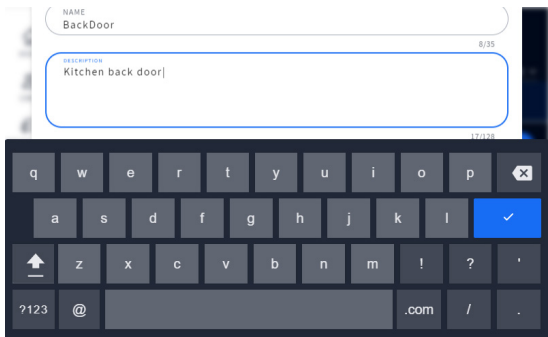

Fig. 1.14
**Direct Access Fields:** These are fields you can type directly into. When you tap in this field, a pop-up keyboard also opens (see Fig. 1.14). This allows you to enter information using the touch screen (without the need for a physical keyboard).